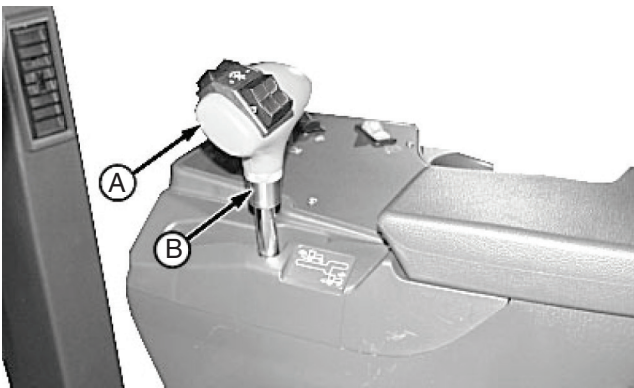

Figure 7. Adjusting Hydrostatic Drive
To adjust handle angle (see Figure 7), turn handle (A) counterclockwise to loosen collar (B). Position handle, tighten collar with fingers, then turn handle clockwise to tighten collar firmly.